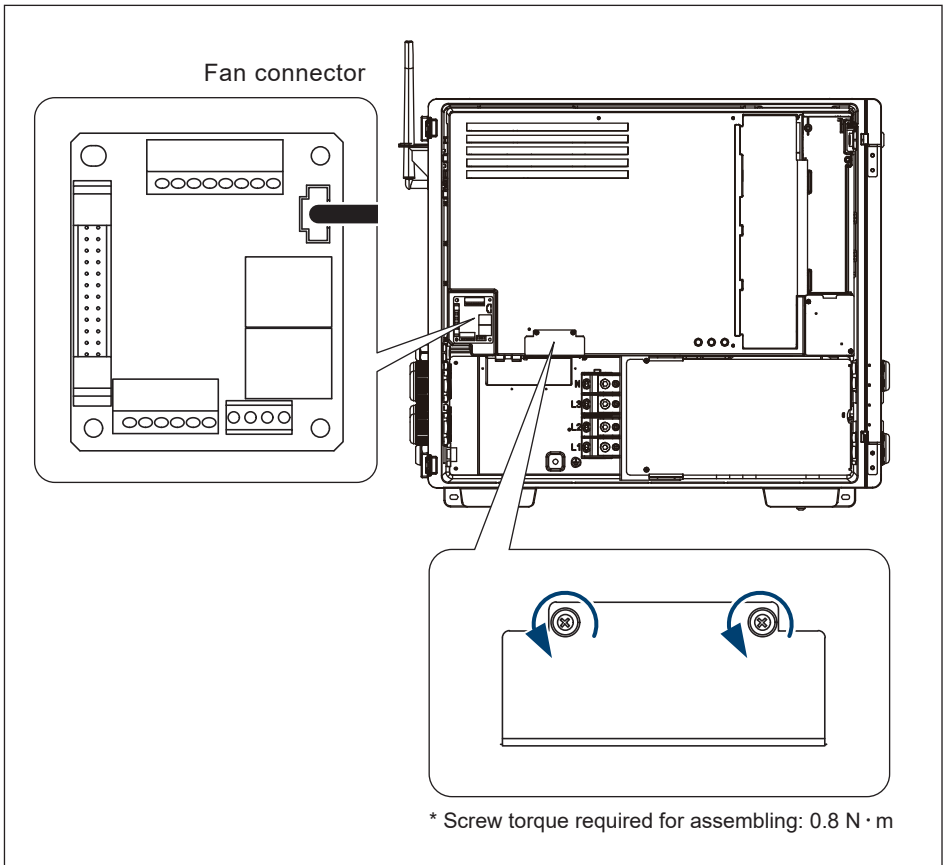

Figure 5-12: Internal fan 2 location & remove the shield cover
- (1) Disconnect the power connector on the COMM. board. (**Figure 5-12**)